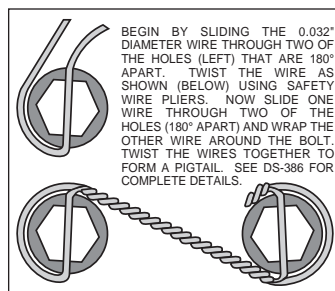

Figure 3. Safety Wire Diagram
- Pack the large inner bearing cone (7) with high temperature disc brake bearing grease (available from your local auto parts store) and install into the backside of the hub (6), Photo 3.
- Install the grease seal (8) by pressing into the backside of the hub (6), flush with the end of the hub, Photo 3.
- Orient the rotor (9) and the hat (10) as shown in Figure 1 and Photo 4. Attach rotor to hat using bolts (12) and washers (11). Using an alternating sequence, apply red *Loctite*® 271 to the threads and torque bolts to 155 **in-lb**. For an added measure of security, the bolts may be safety wired using standard 0.032 inch diameter stainless steel safety wire as shown in Figure 3. Refer to Wilwood's data sheet DS-386 (available at www.wilwood.com/Pdf/DataSheets/ds386.pdf) for complete safety wire installation instructions.